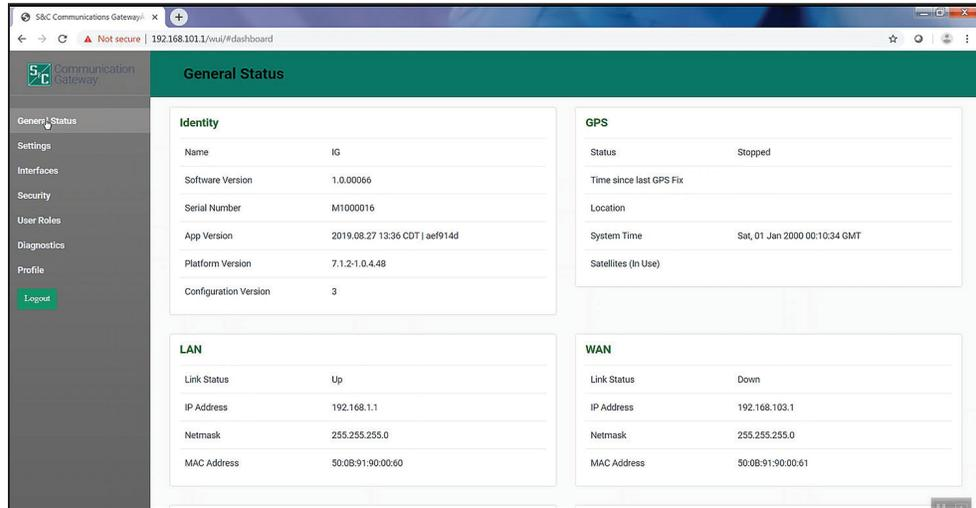
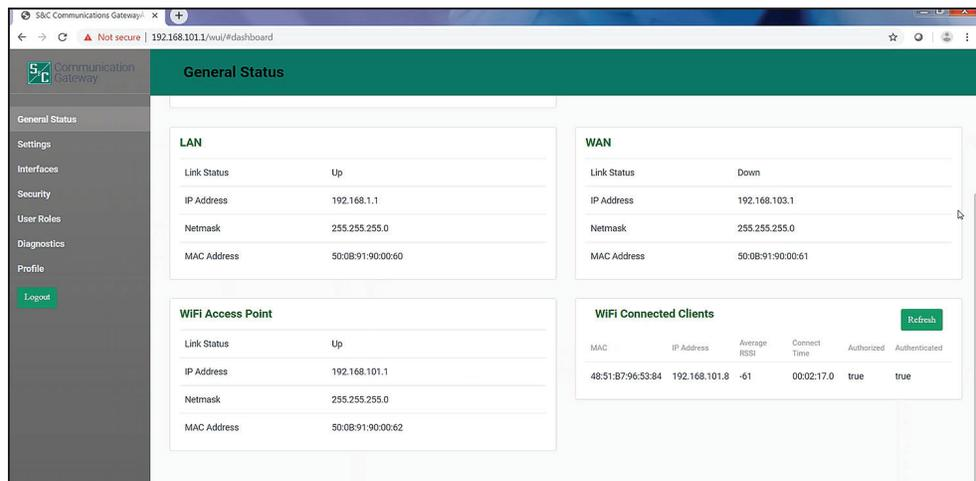

Figure 7. The top of the *General Status* screen.
Figure 8. The bottom of the *General Status* screen.
STEP 2. With firmware version 2.1 and earlier, to skip this screen and keep the default password setting, click on an entry in the left menu. Figure 7 and Figure 8 show the *General Status* screen.
The *General Status* screen is comprised of the Identity, GPS, LAN, WAN, Wi-Fi Access Point, and Wi-Fi Connected Clients panels. The Identity panel contains six fields: **Name**, **Software Version**, **Serial Number**, **App Version**, **Platform Version**, and **Configuration Version**. The GPS panel contains five fields: **Status**, **Time Since last GPS Fix**, **Location**, **System Time**, and **Satellites (In Use)**. The LAN and WAN panels contain four fields each: **Link Status**, **IP Address**, **Netmask**, and **MAC Address**. See Figure 7 on page 8. The Wi-Fi Access Point panel contains four fields: **Link Status**, **IP Address**, **Netmask**, and **MAC Address**. The Wi-Fi Connected Clients panel contains six fields: **MAC Address**, **IP Address**, **Average RSSI**, **Connect Time**, **Authorized**, and **Authenticated**. See Figure 8 on page 8.